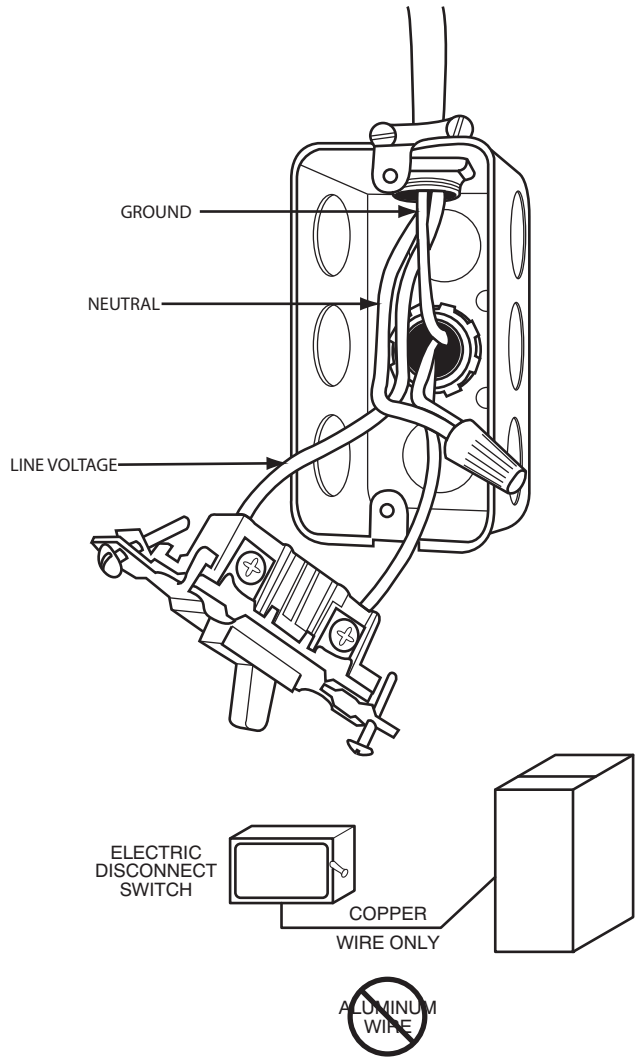

Fig. 32 - Field-Supplied Electrical Box on Furnace Casing
Do not connect aluminum wire between disconnect switch and furnace. Use only copper wire. See Fig. 32.
1. Fasten a field-supplied external electrical box to the outside of the casing by driving two field-supplied screws from inside electrical box into casing. See **Fig. 32**.
9. Complete external disconnect wiring and installation. Connect line voltage leads as shown in **Fig. 32**. Use best practices (NEC in USA for wire bushings, strain relief, etc., CANADA: Canadian Electrical Code CSA C22.1)